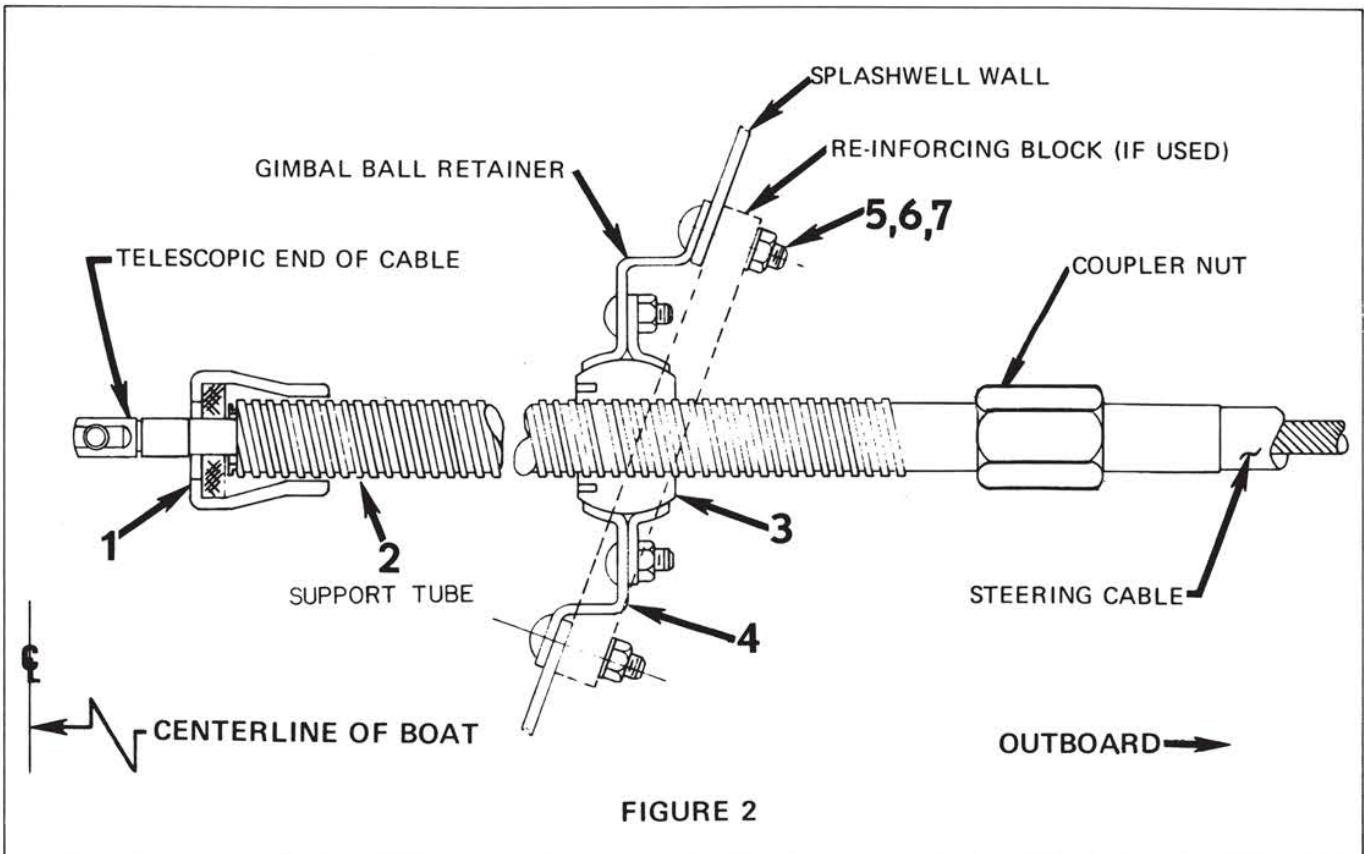

FIGURE 2
1. Position Gimbal assembly to the splashwell, using a reinforcing block if necessary. The "Boot" end of the support tube must point toward the centerline of the boat (see Fig. 2).
2. Secure this assembly to the splashwell wall using Carriage Bolts (Item 5) Washers (Item 6) and Lock Nuts (Item 7) as shown in Figure 2, torquing Nuts to 75 inch pounds. DO NOT EXCEED 100 INCH POUNDS.
3. Install Boot and Wiper Assembly (Item 1) to the Support Tube as shown in Figure 2, seating firmly.
4. Insert the telescopic end of Steering Cable (see Figure 2) through Support Tube (Item 2). Thread Coupler Nut to Support Tube and tighten securely (approximately 15 foot pounds).